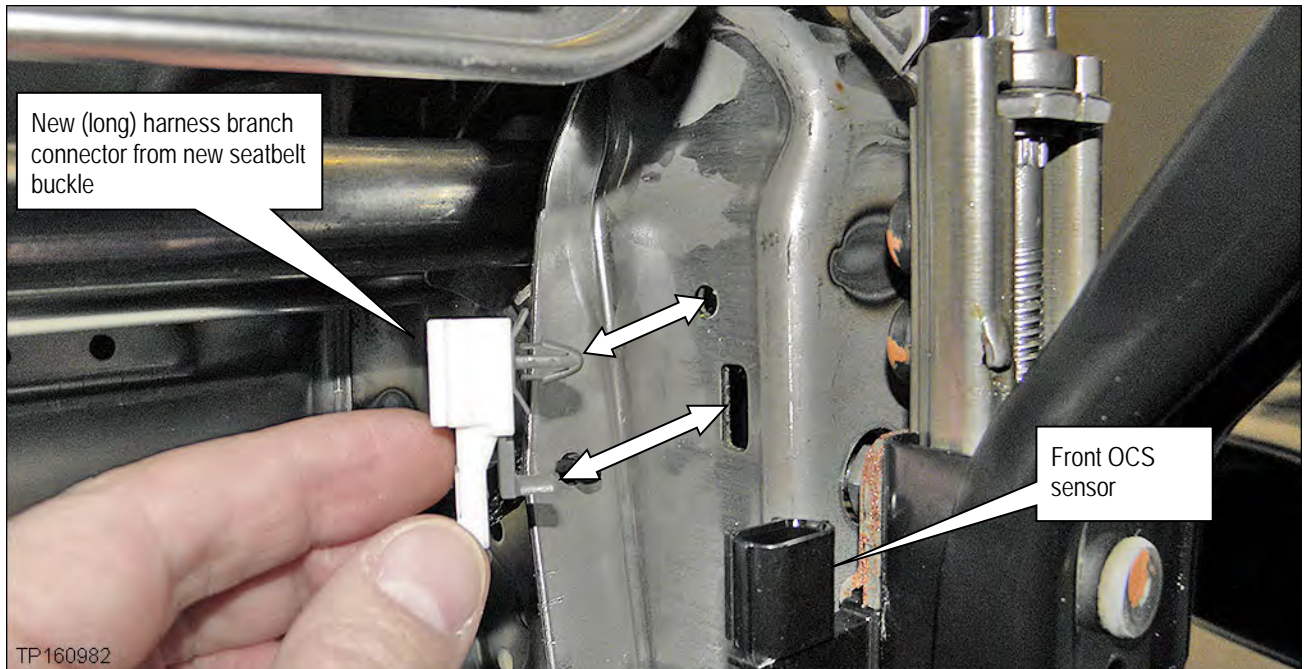

Figure 3
10. From under the seat, mount the connector of the new (long) harness branch to the seat frame as shown in Figure 3 and 4 (use the hole and slot shown).